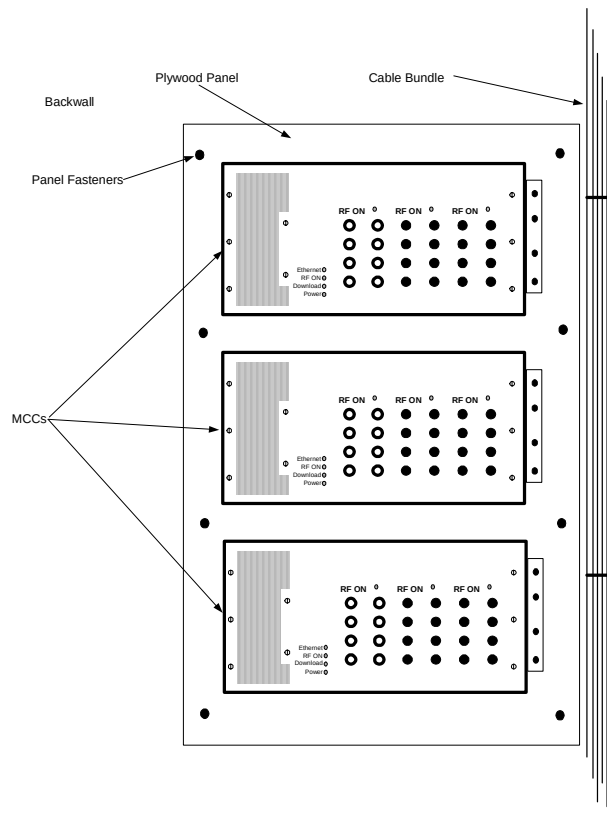

Figure 2-4 Typical MCC Installation
Figure 2-4 Typical MCC Installation shows how 3 MCCs might be mounted on a backroom wall. The MCCs are arbitrarily numbered M1 through M3 from top to bottom. A four inch space should be allowed between the mounted MCCs for 10Base-T and power connector clearances, as well as room for adequate ventilation. MCC power and 10Base-T connections are made at the bottom of each mounted MCC.
1. Lay out the MCC bracket mounting holes on the plywood panel. An example of a plywood panel laid out to accommodate 3 MCCs is shown in *Figure 2-4 Typical MCC Installation*.